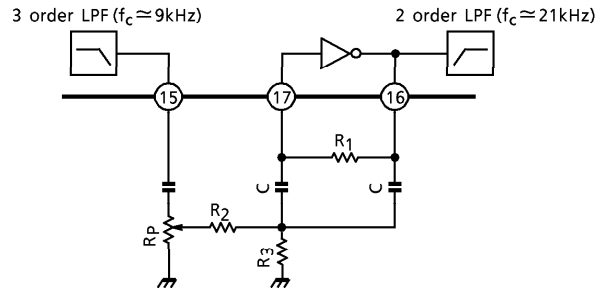

Fig.4
NOISE FILTER AMP can construct BPF as Fig.4. Setting constants forrow as below equation (1)~(3).